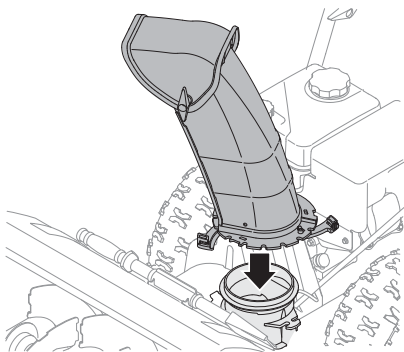

Figure 2-11
1. Position chute assembly over base. See Figure 2-11.